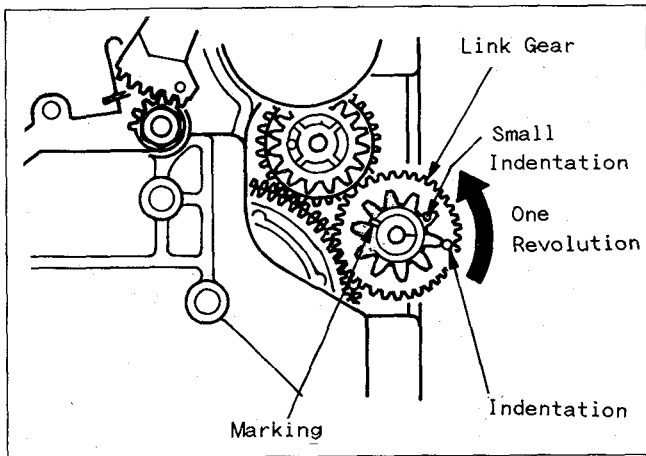

Fig. DA4
3. Memorize the position of the marking, Indentation or the Small Indentation on the Link Gear (located on top, right side, as shown in Fig. DA4). Turn the Center Pulley clockwise while watching the Link Gear so that the marking, Indentation or Small Indentation on the Link Gear rotates one revolution.